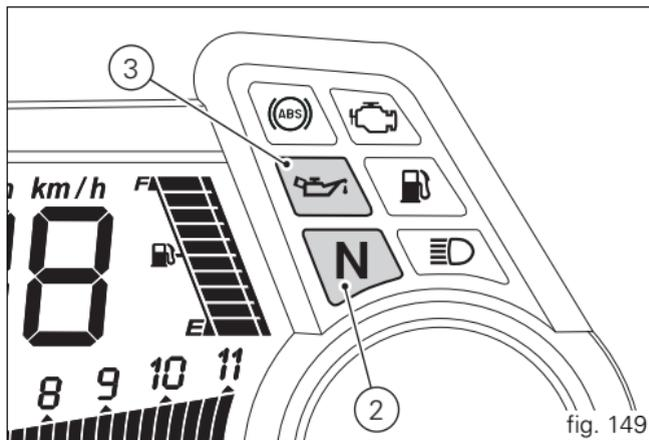

fig. 149
The instrument panel will perform the initialisation and will control the onboard systems, turning on all lights in sequence, from the bottom to the top, for a few seconds. After this control, only the green light (2, fig. 149) and the red light  (3) must remain on.